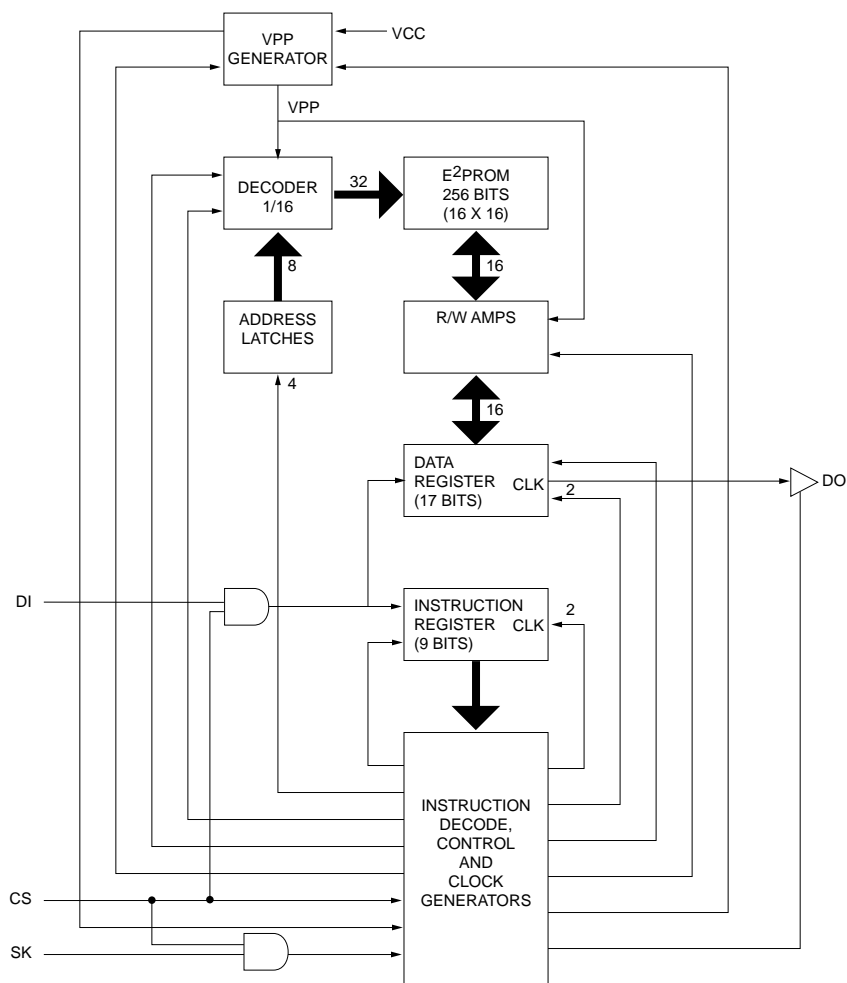

FIGURE 1. Block Diagram
any new cycle. As shown in the functional block diagram (Figure 1) chip select also gates the data input and clock input, thus disabling these functions.
- On any instruction, zeros can be clocked into the DI input before the start bit. Any number of clock cycles may be added if Data-In (DI) is held at zero. The first 1 clocked in will be interpreted as the start bit. This requires special precautions if a bidirectional data bus is used (Data-In tied to Data-Out) as the Busy/Ready Polling will interfere with the Data-In if it is not cleared out at the end of each programming cycle. See Section 2.3, THREE WIRE BUS, for more information.
- During a Read instruction, it is allowable to continue to clock the device after the 16 bits of data has been clocked out. In the case of the NM93CS family this will cause the memory to increment to the next register and present its contents on the Data-Out pin. In the case of all other devices, whatever was present on the Data-In pin will become present on the Data-Out pin (Fall thru). Refer to Figure 1, Block Diagram.
2.1.3 DATA-IN (DI)